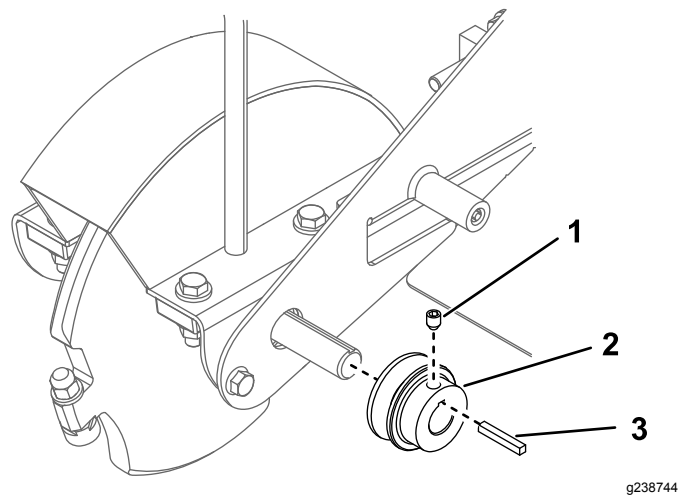

Figure 4
6. Remove the front pulley (Figure 4).